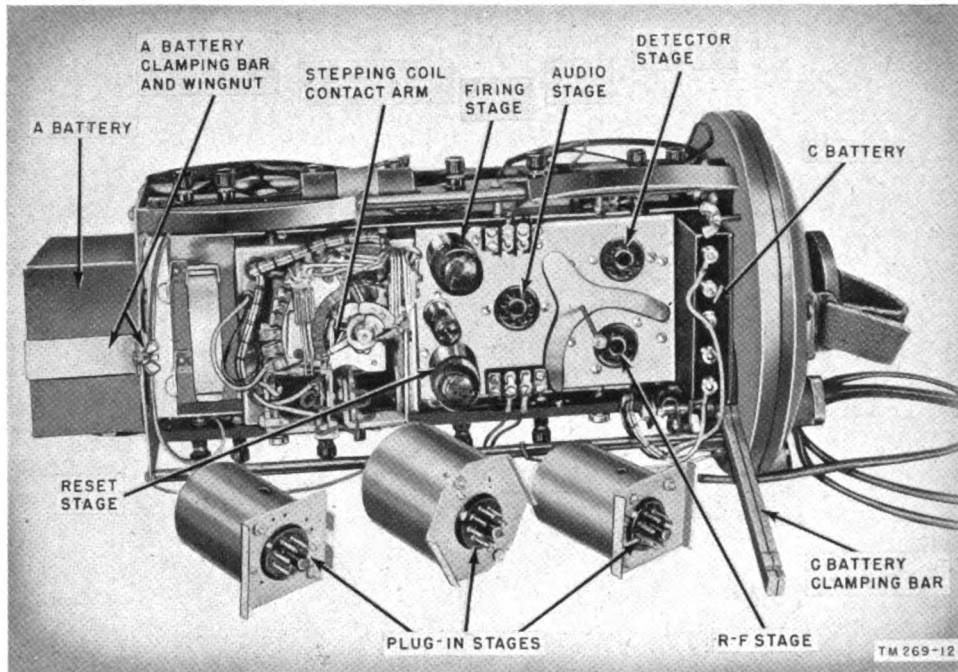

Figure 12. Receiver, top view, plug-in stages removed.
- (4) Loosen the wingnut on the C-battery clamping bar (fig. 12) and swing the clamping bar open. Install the C-battery (Battery BA-34) base down, making sure that the positive terminal is on the same side as the wingnut which holds the clamping bar in place. Connect the receiver lead with the green tracer to the positive terminal, the green lead to the 3-volt terminal, the pink lead from the receiver to the negative terminal. Swing the clamping bar closed and tighten the wingnut.
- (1) Select a stage having the desired radio frequency from the r-f plug-in stages supplied with the receivers. The stages are numbered from 1 to 6, and the radio frequency corresponding to each of these numbers is given in table IV. Plug the selected unit into the keyed receptacle marked RF (r-f stage, fig. 12).
- (2) Select a detector stage plug-in unit of the same number as the r-f plug-in unit. Plug this stage into the keyed receptacle marked DET (detector stage, fig. 12).
- (3) Select a stage of the desired audio frequency from the available plug-in stages. These stages are numbered from 1 to 5, and the audio frequency corresponding to each of these numbers is given in table IV. Plug this unit into the third keyed receptacle (audio stage, fig. 12).